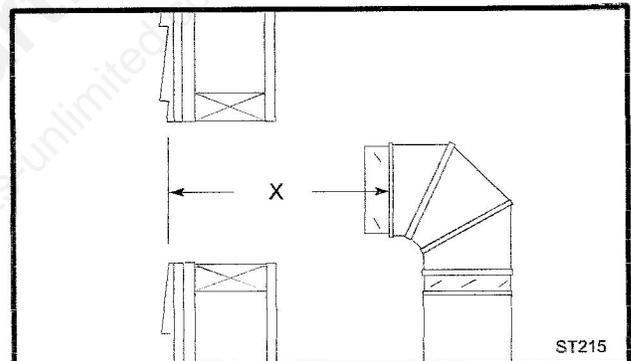

Fig. 32 Measure the horizontal length.
7. Measure, and cut if needed, the appropriate length of pipe section needed to make the connection through the wall. Include a 2" overlap; i.e. from the elbow to the outside wall face, about 2" or the distance required if installing a second 90° elbow. (Fig. 32)